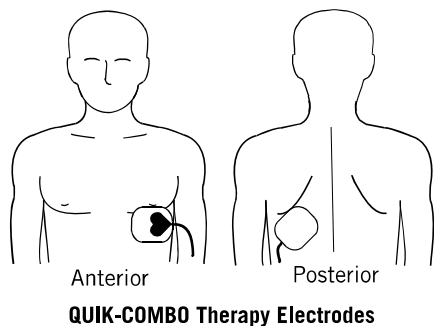

Figure 5-2 Anterior-Posterior Placement
1. Place either the ♥ or + therapy electrode over the left precordium as shown in Figure 5-2. The upper edge of the electrode should be below the nipple. Avoid placement over the nipple, the diaphragm, or the bony prominence of the sternum, if possible.
2. Place the other electrode behind the heart in the infrascapular area as shown in Figure 5-2. For patient comfort, place the cable connection away from the spine. Do not place the electrode over the bony prominences of the spine or scapula.